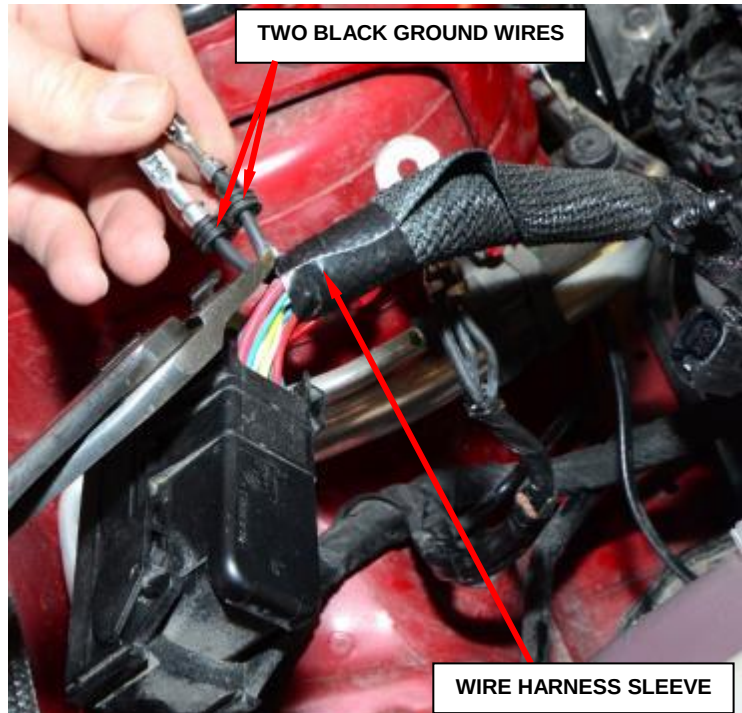

Figure 13 – Ground Wires
6. Cut off the two black ABS electrical connector ground wires at the end of the wire harness sleeve (Figure 13).